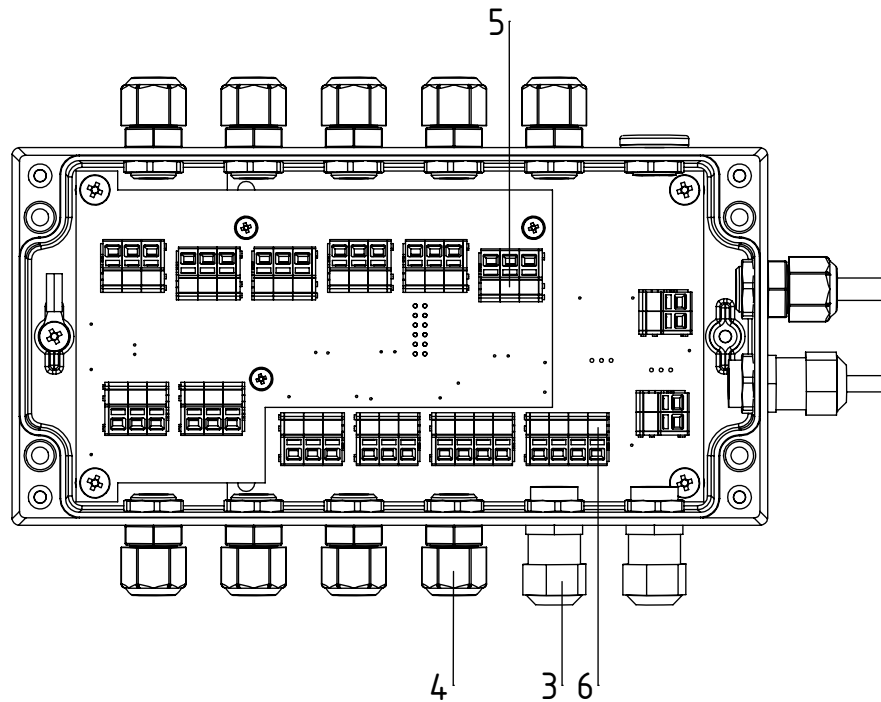

Fig. 3:
- Sensors for analog evaluation (see chapter 6.2 "Additional sensors", page 16) must be fed into the housing via the metal cable glands (3, Fig. 3) and connected via the 4-pole terminals (6, Fig. 3). Shielded cables with a shield on both ends must be used for this purpose (see chapter 3.4.1 "Analog sensors", page 10).
Sensors for analog evaluation must be fed into the housing via the metal cable glands (3, Fig. 3) and connected via the 4-pole terminals (6, Fig. 3). Shielded cables with a shield on both ends must be used for this purpose.
Sensors for digital evaluation are fed into the housing via the plastic cable glands (4, Fig. 3) and connected via the 3-pole terminals (5, Fig. 3). The number and position of the 3-pole terminals varies depending on the device version.